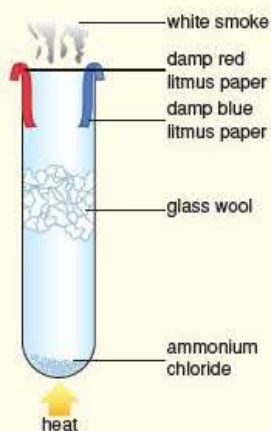

Figure 13.5
- 2 Figure 13.5 shows what happens when ammonium chloride is heated to form ammonia and hydrogen